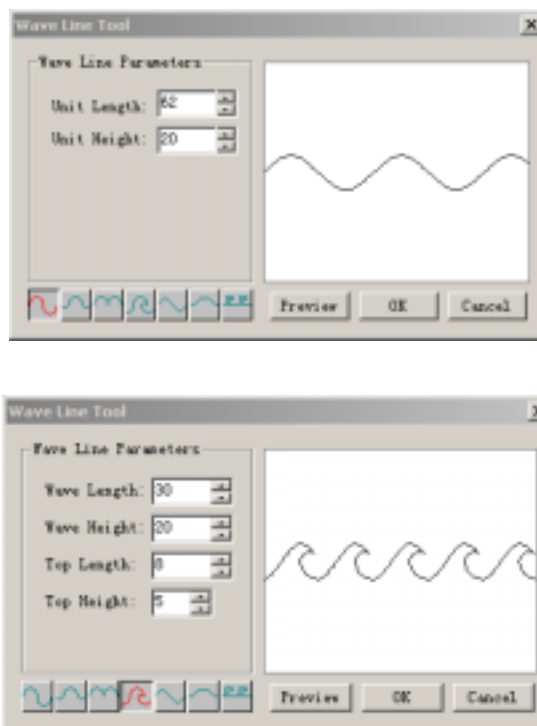

Fig. 4-25
2. The dialog (Fig. 4-25) is displayed.